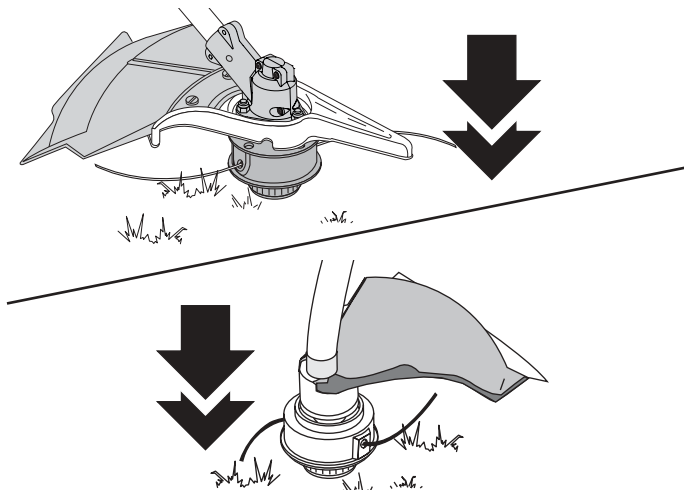
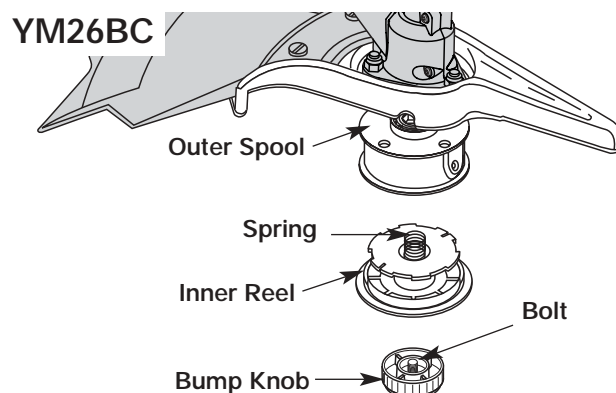

Fig. 27
Fig. 31
The Bump Head™ cutting attachment allows you to release trimming line without stopping the engine. To release more line, lightly tap the cutting attachment on the ground (Fig. 27) while operating the trimmer at high speed.
1. Hold the outer spool with one hand and unscrew the Bump Knob. For the YM26BC, unscrew it clockwise (Fig. 27). For the YM26C0, unscrew the Bump Knob counterclockwise (Fig. 31).
2. Remove the inner reel from outer spool (Fig. 31 or 32).
3. Remove spring from the inner reel (Fig. 31 or 32).
1. Hold the outer spool with one hand and unscrew the bump knob clockwise (YM26BC) or counterclockwise (YM26C0). Inspect the bolt inside the bump knob to make sure it moves freely. Replace the bump knob if damaged (Fig. 31 or 32).
2. Remove the old inner reel from the outer spool (Fig. 31 or 32).
3. Remove the spring from the old inner reel (Fig. 31 or 32).